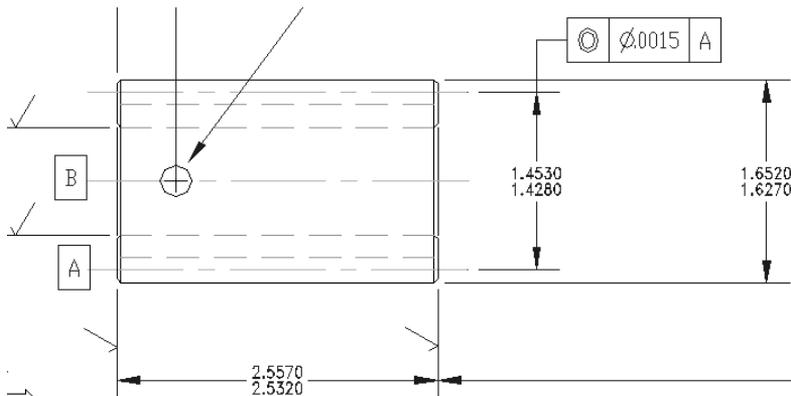

Figure 15-30: Limits tolerances.
- ♦ **Limits** tolerances include the upper and lower tolerances in the measurement, as shown in Figure 15-30. Use the Upper Value and Lower Value text boxes to type in the upper and lower tolerance amounts.